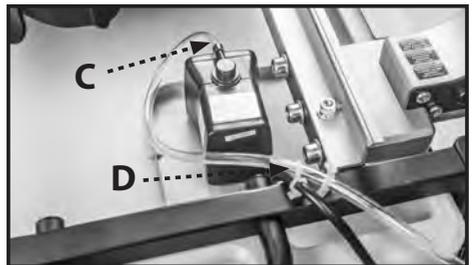

FIGURE 12
2. Attach the free end of the water hose into the outlet nipple (C, Fig. 12) on the submersible pump (7).
3. Place the pump in the bottom of the water tray (1) — inside the containment area as shown in Figure 12 — and firmly press down so that the suction feet are securely adhered.
4. Secure the slack in the water hose and pump's power cord to the tool using the provided snap ties (D, Fig. 12).